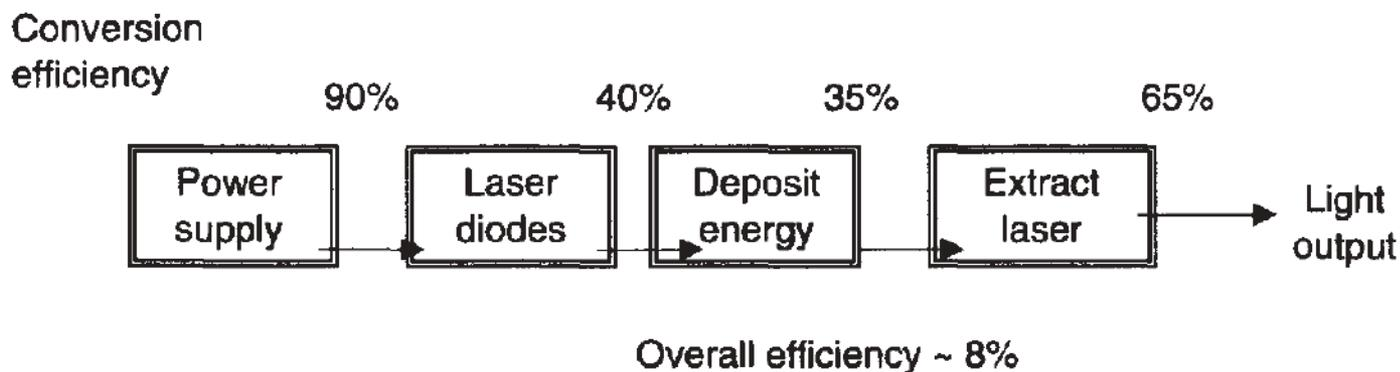

Fig.1
- It's instructive to examine the energy flow through a diode-pumped Nd:YAG laser, as illustrated in Fig.1. Here, we show typical efficiencies for each major step in the process of converting energy from electricity to light. The overall efficiency is ~8%